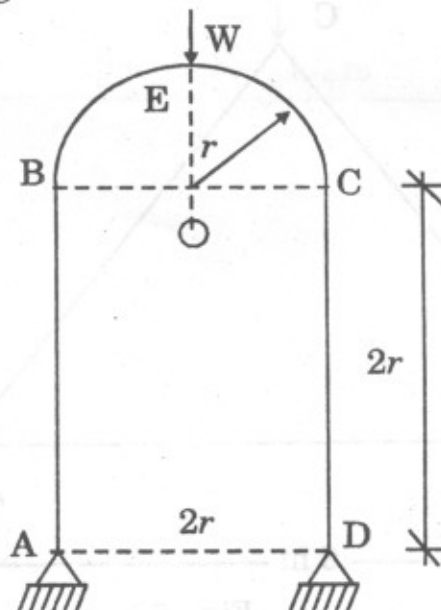

Fig. 7
3. (A) A fixed beam AB of span 4 m is carrying a u.d.l. of 15 kN/m over the whole span. The support B sinks down by 10 mm. If  $E = 200 \text{ GPa}$ ,  $I = 8 \times 10^7 \text{ mm}^4$  then calculate the fixed end moments and draw the Bending Moment Diagram. [8]
- (B) Calculate the horizontal thrust at the feet of the frame ABCD shown in Fig. 7. [8]